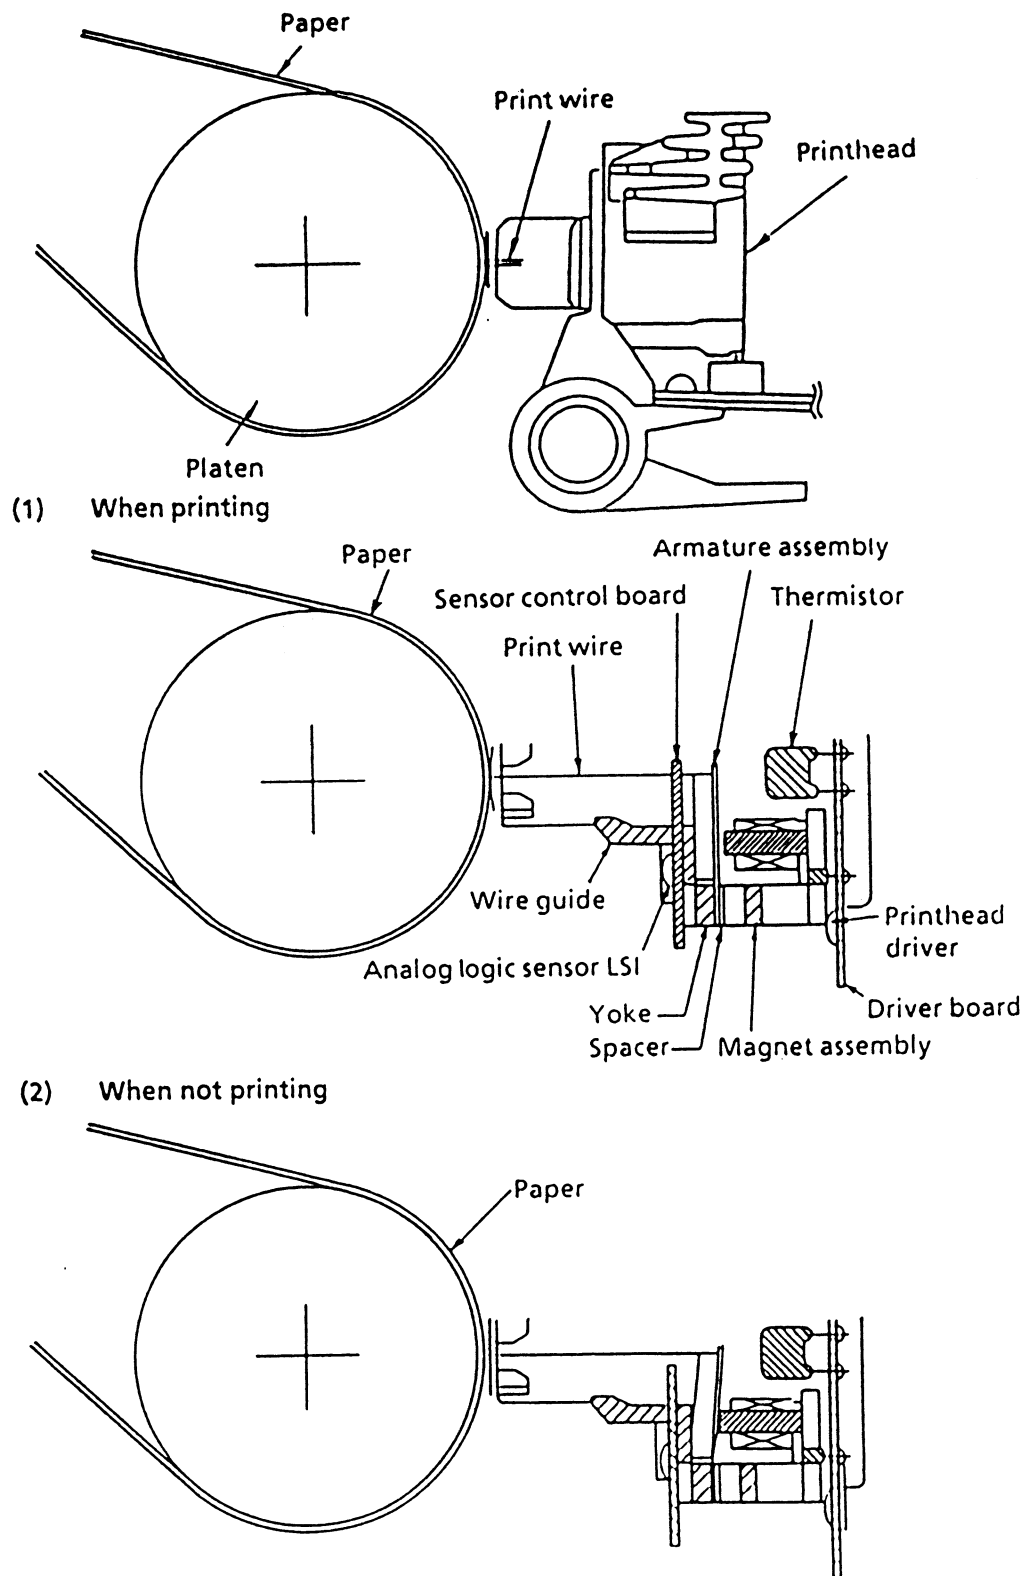

Figure 3-3
(2) Operation of printhead (See Figure 3-3)